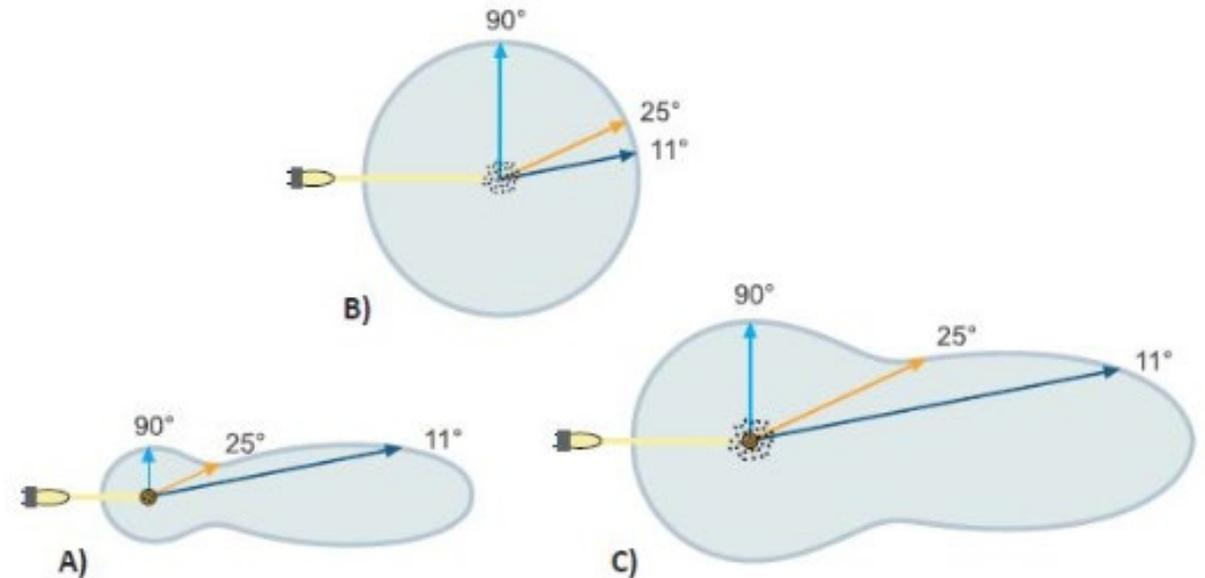

Figure 1: Angular intensity distribution of scattered light caused by
Figure 1. Angular patterns of scattered intensity from particles of three sizes. (A) small particles, (B) large particles, (C) larger particles. From Brumberger, et al, "Light Scattering," *Science and Technology*, November, 1968, page 38.